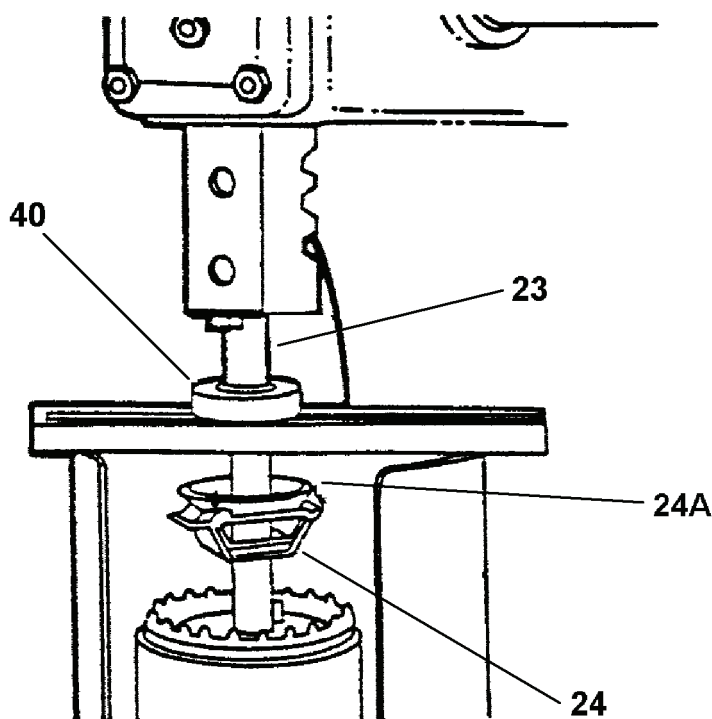

Figure 3-12. Bearing Removal Using Arbor Press.
- p. Place rotor and shaft assembly (23, Figure 3-12) upside down into an arbor press. Press shaft through the bearing (40).